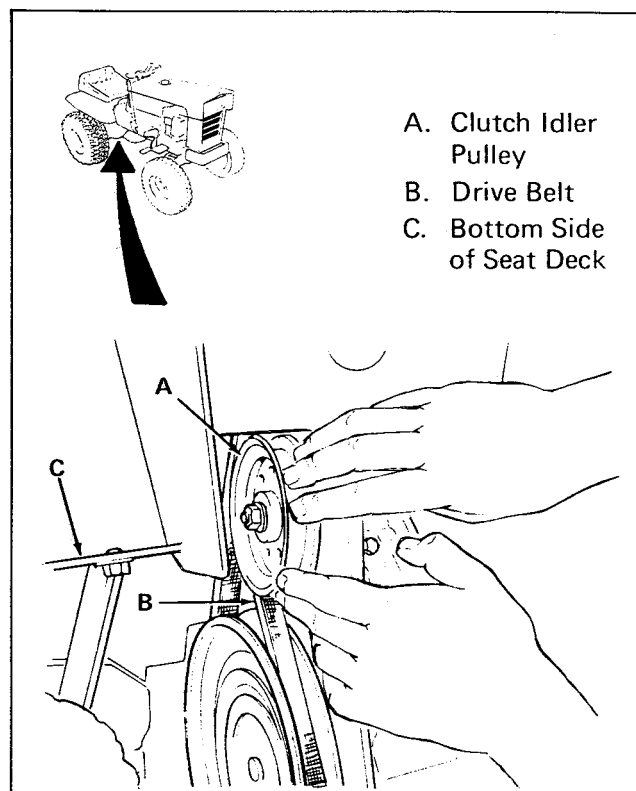

Figure 16. Clutch Idler Positioning
2. Press clutch idler pulley (item A, figure 16) firmly against drive belt (item B). Make sure all slack is removed from belt.